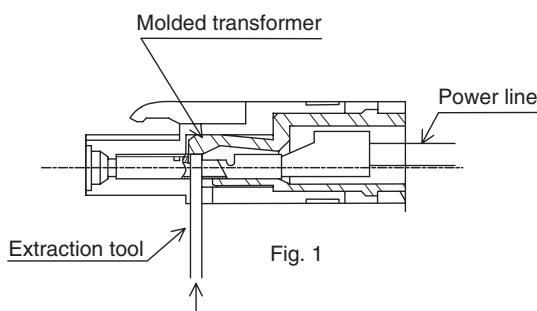

Fig. 1
1. Press down the molded transformer using the extraction tool, as shown in Fig. 1.